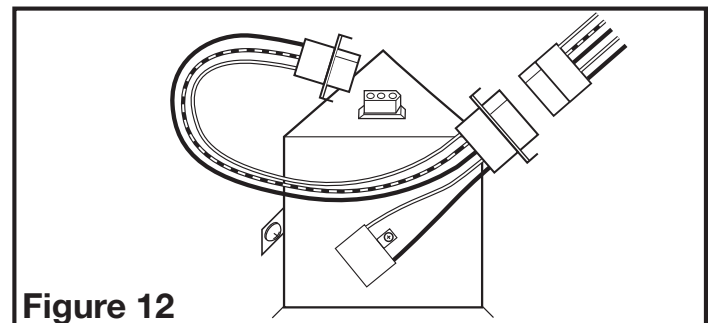

Figure 12
- 3b. **AKLS6 MODELS:** Plug the fan's 5 pin quick connect motor cord into the included harness. Plug the 3 pin quick connect harness cord into the receptacle located on top of the wire compartment. These cords will only fit one way into the receptacles (**Figure 12**).